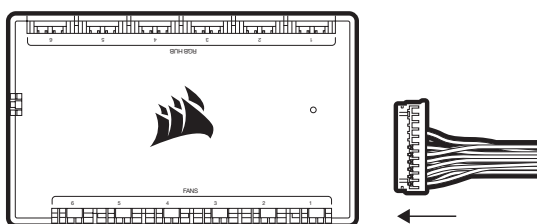

Figure 1
- > Connect pump 24-pin cable to your COMMANDER CORE (Figure 1).